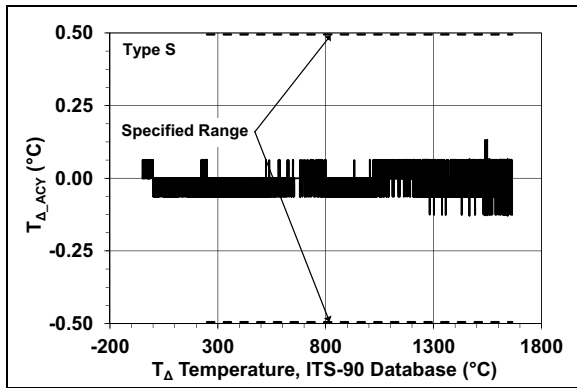
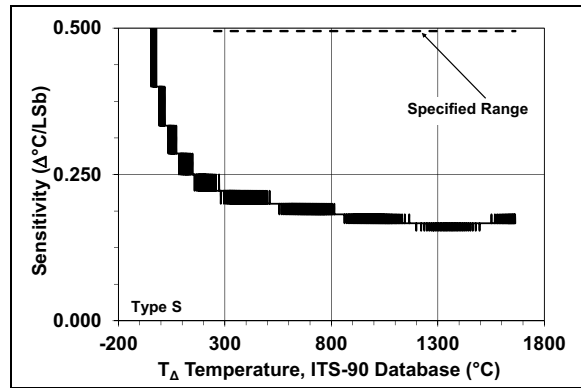

FIGURE 2-7: Typical Temperature Accuracy from NIST ITS-90 Database, Type S.
FIGURE 2-10: Temperature Sensitivity with 18-Bit Resolution, Type S.
- 2:** The device measures temperature below the specified range, however the sensitivity to changes in temperature reduces exponentially. Type R and S measure down to -50°C , or -0.226mV_{EMF} and -0.235mV_{EMF} , respectively. Type B measures down to 500°C or 1.242mV_{EMF} (see Figures 2-7, 2-8, 2-14 and Figures 2-10, 2-11 and 2-17).